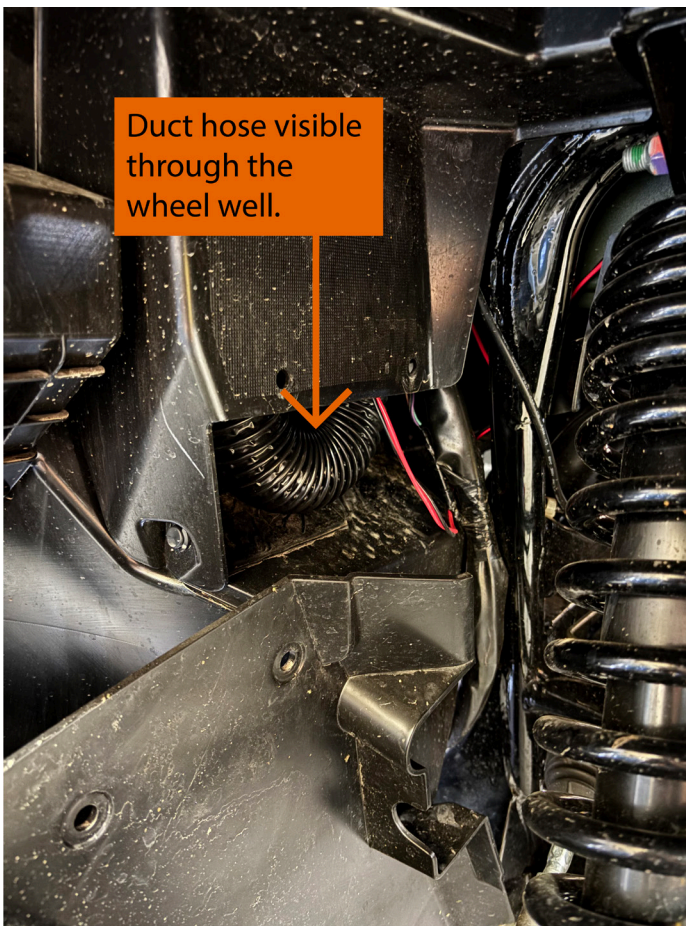

FIGURE 6
15. Route the other 30" duct hose into the passenger side cup houlder until you can see hose in the passenger side wheel well. FIGURE 6